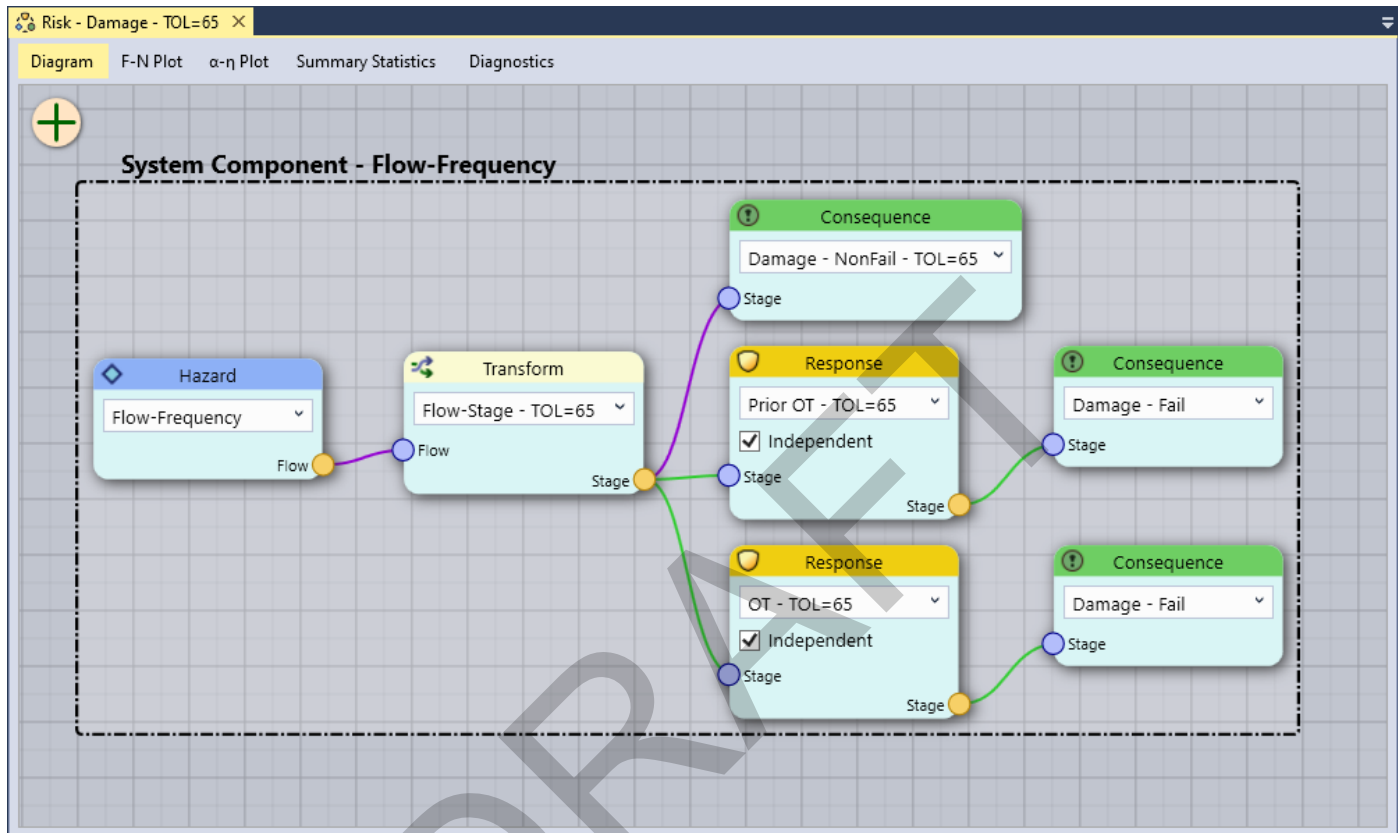

Figure 140 - Example risk diagram for a levee risk analysis.
Figure 140 below shows an example risk diagram for a levee risk analysis. The primary hazard is river peak flow-frequency. Peak flow is transformed to a peak river stage using a flow-to-stage rating curve derived from a hydraulic routing model. There is a prior to overtopping failure mode (Prior OT) from backwards erosion piping, and an overtopping (OT) failure mode. The top of levee is at a river stage of 65 ft.